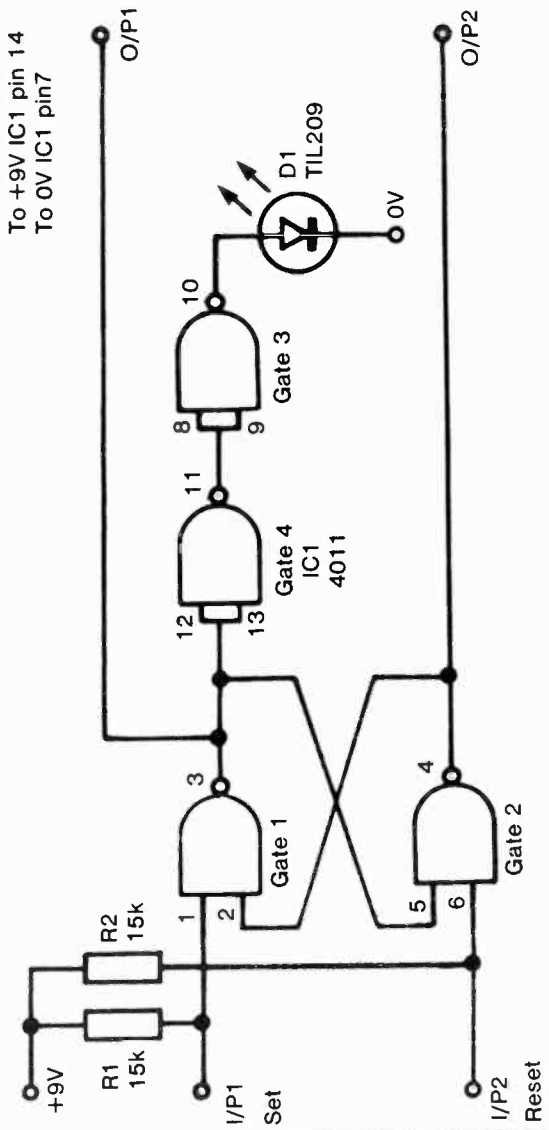

Fig. 74 Circuit diagram of Module 45.
**Circuit diagram:** see Figure 74.